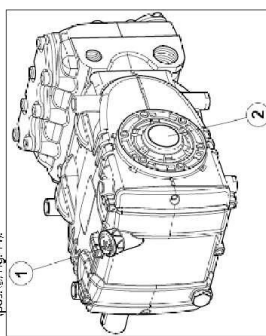

Fig. 14
5. Oil in the pump casing is at level, verified with a dipstick (pos. ①, Fig. 14) and exceptionally with a level indicator (pos. ②, Fig. 14).